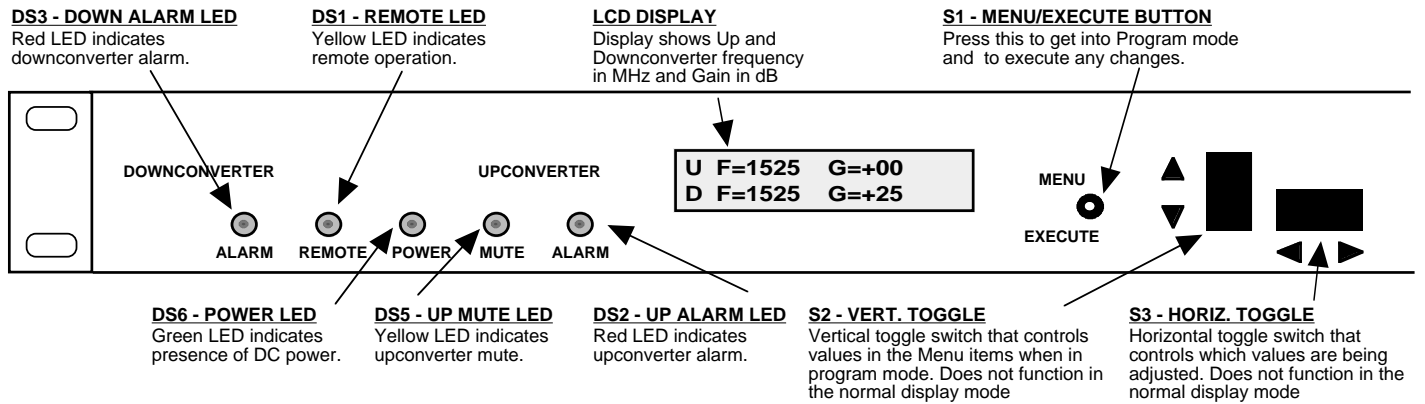

Figure 2.2 Model 2017-03A Front Panel Controls and Indicators
2.2 Rear Panel Input/Output Signals and Control - Figure 2.2 shows the input and output connectors on the rear panel.
- 7.) Be sure DS6 (green, DC Power) is on and DS2 (red, Alarm) is off (Figure 2.2)
- 7.) Be sure DS6 (green, DC Power) is on and DS2 (red, Alarm) is off (Figure 2.2).
2.5.1 Functions - This section describes operation of the front panel controls. There are three operator switches, the LCD display and alarm indicator LEDs. All functions for the equipment are controlled by these components. The functions are (see Figure 2.2):
Alarm indications appear on the LEDs (see figure 2.2).